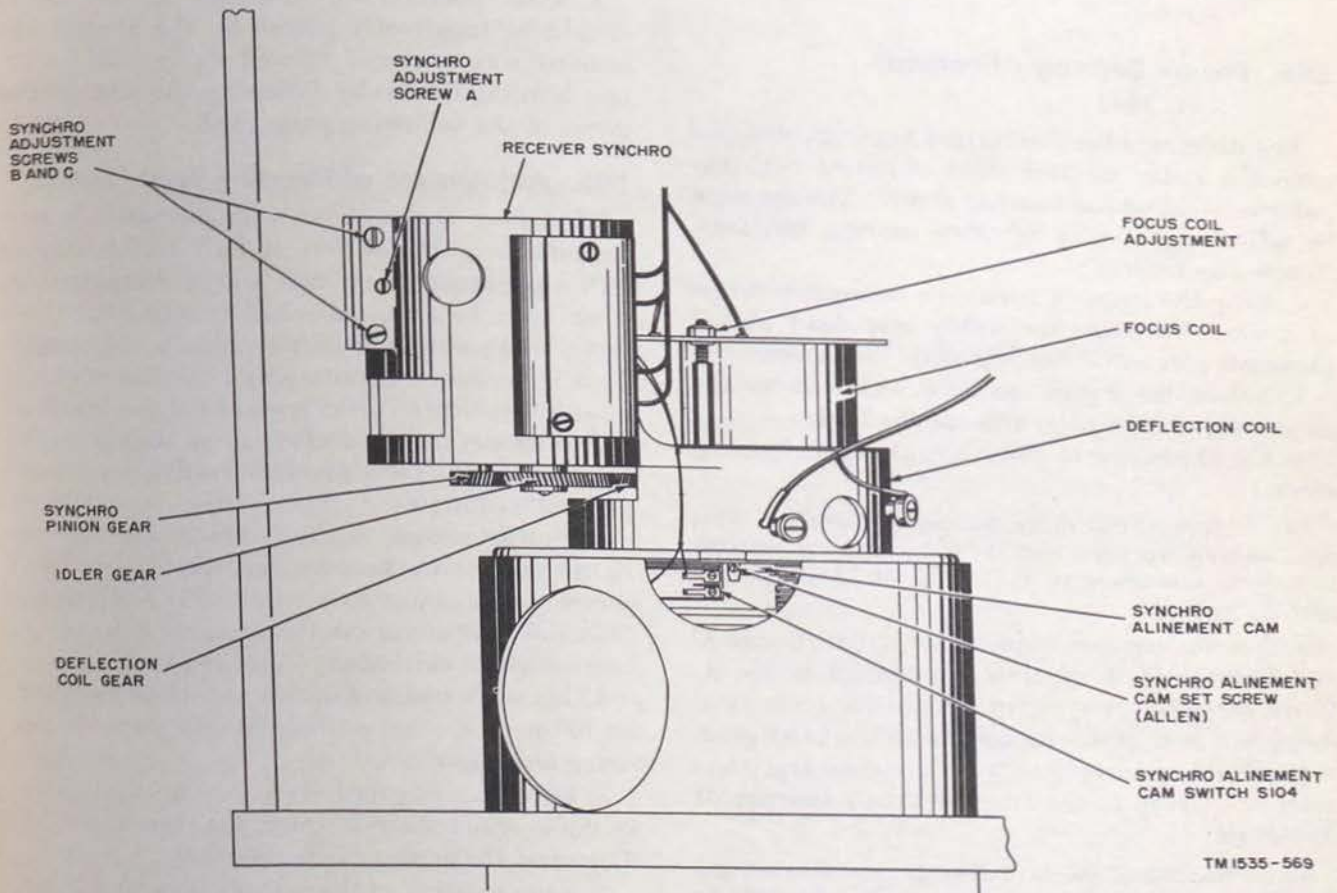

Figure 163. Indicator, line drawing of top view.
- (1) Stop the antenna horn at 180°, as outlined in *a* above.
- (2) Place ANTENNA MOTOR switch S802, on the convenience panel, in the OFF position.
- (3) Place antenna motor switch S503 (located in the antenna) in the ON position.
- (4) Turn on the indicator POWER switch. A stationary sweep in the aft position of the PPI should be seen.
- (5) Loosen synchro adjustment screws B and C. Hand-tighten synchro adjustment screw (A, fig. 163).
- (6) Work the receiver synchro toward the back until the synchro pinion gear is disengaged from the idler gear.
- (7) Check the centering of the sweep by spinning the deflection coil by hand. The sweep should rotate directly behind the small circles scribed in the center of the cursor. If it does not, readjust the focus coil (par. 192*d*).
- (8) With the aid of the Allen wrench held on the clip at the left of the receiver synchro, loosen the synchro alinement cam set screw.
- (9) Move the synchro alinement cam slightly. Rotate the idler gear very slowly in a clockwise direction, until the instant the synchro alinement cam switch S104 oper-